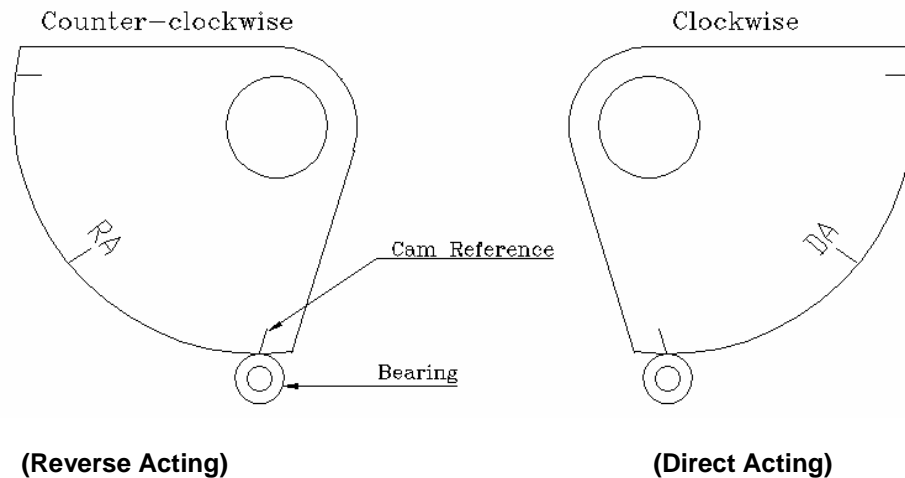

Fig.11
3. After checking the initial point, release the hexagonal flange nut and adjust the position of the bearing so it is at 0 point. **Fig. 11**